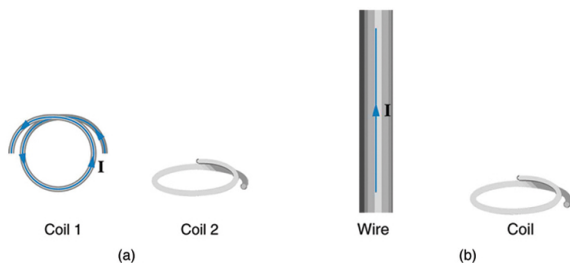

Figure 23.56 (a) The planes of the two coils are perpendicular. (b) The wire is perpendicular to the plane of the coil.
31. What is the value of the magnetic flux at coil 2 in **Figure 23.56** due to coil 1?
32. What is the value of the magnetic flux through the coil in **Figure 23.56(b)** due to the wire?